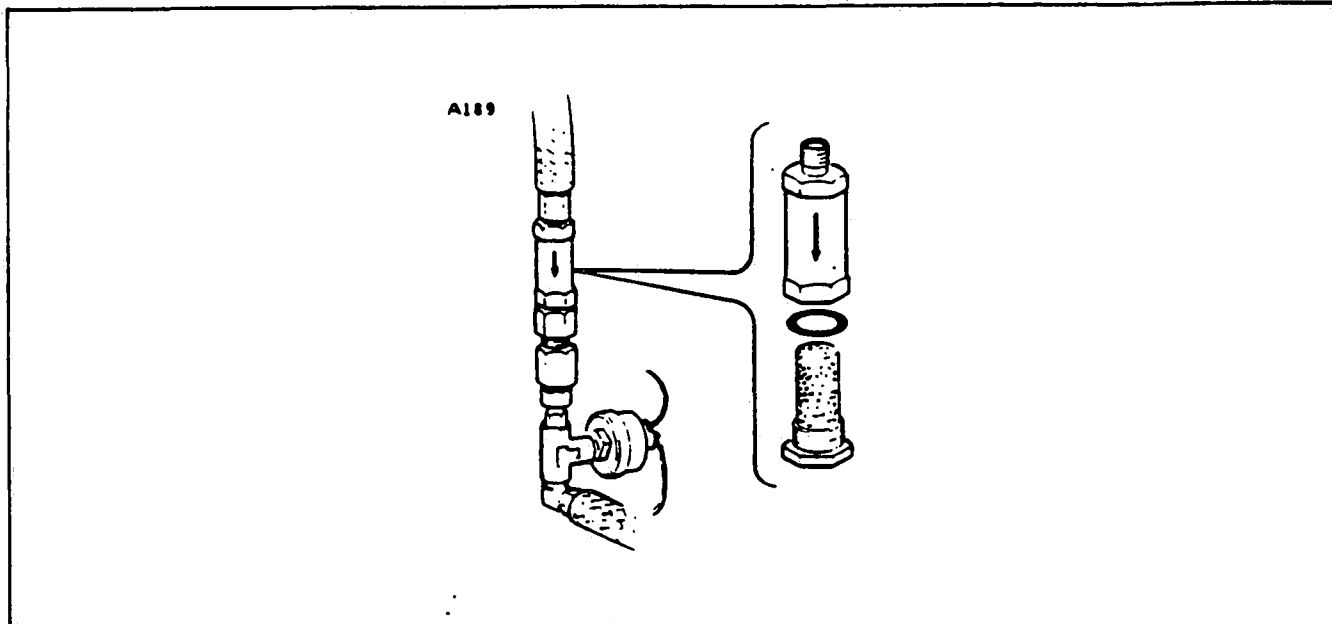

Figure 2-19. Turbo Oil Filter
- a. Remove the oil filter, located on the lower right side of the firewall, from line and disassemble unit. (Refer to Figure 2-19.)